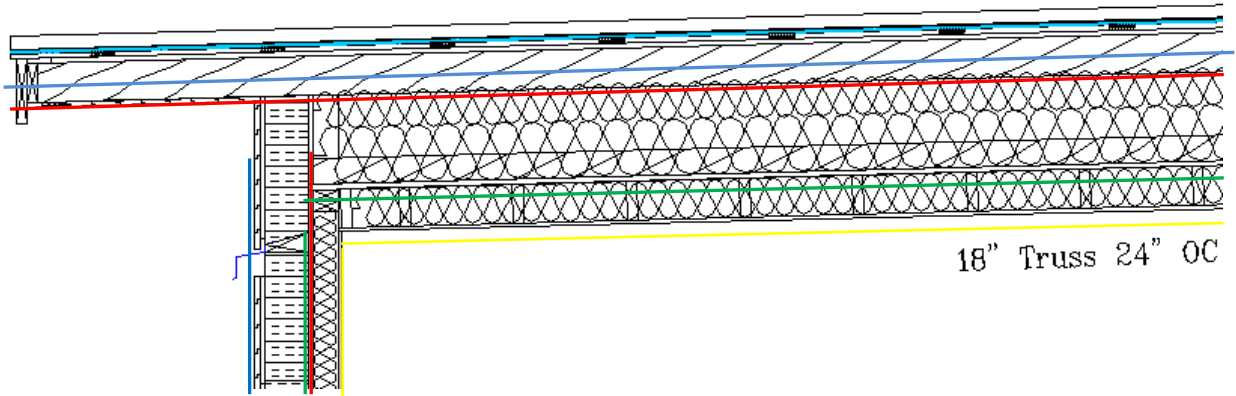

Figure 2 – The Enclosure Roof Assembly (R61 eff.)
- 2) For full details of our VB, AB, and WRB layer designs, please see the roofing details drawing (fig2 below)